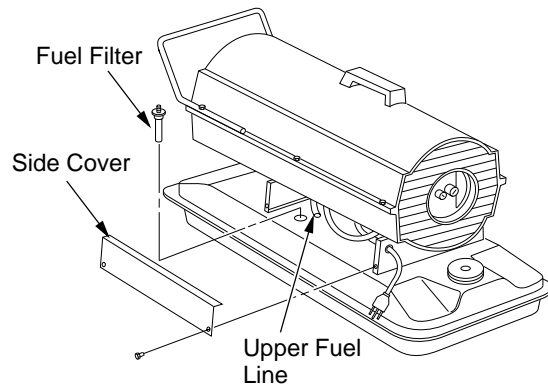

Figure 15 - Fuel Filter Removal, 40/55T/70T Models
3. Pull upper fuel line off fuel filter neck (see Figure 15 or 16).
3. Remove 4 side cover screws with a 5/16" nut driver. Remove side cover (see Figures 15 and 16).
12. Replace side cover (see Figures 15 and 16, page 9).
2. Remove side cover screws using 5/16" nut driver (see Figure 15 or 16, page 9).
2. Remove side cover screws (4) using 5/16" nut-driver to expose ignition control assembly (see Figure 15 or 16, page 9).